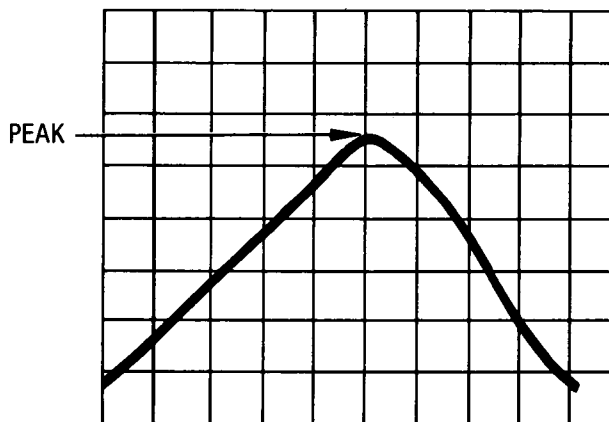

Figure 5-21. Optimum YTM Response
- c. YTM tuning is adjusted by centering the YTM response peak on the oscilloscope display (see Figure 5-21). Adjustments are made at the highest and lowest frequency in each band. In addition, band 3 and, for the 8673D, band 4 are adjusted at "breakpoints" to correct for tracking deviation at the higher frequencies.